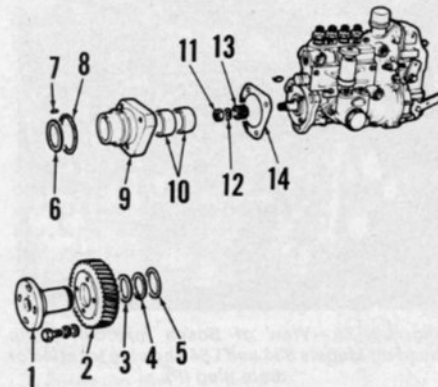

Fig. L3-17 - Exploded view of fuel injection pump drive assembly on Models 834 and L54.
To remove the fuel injection pump drive gear (2 - Fig. L3-17) on Models 834 and L54, the fuel injection pump must be removed as previously outlined. Detach snap ring (4) and remove gear and hub. Unscrew gear retaining screws and separate the gear from the hub. Bushings (10) in adapter (9) are renewable.